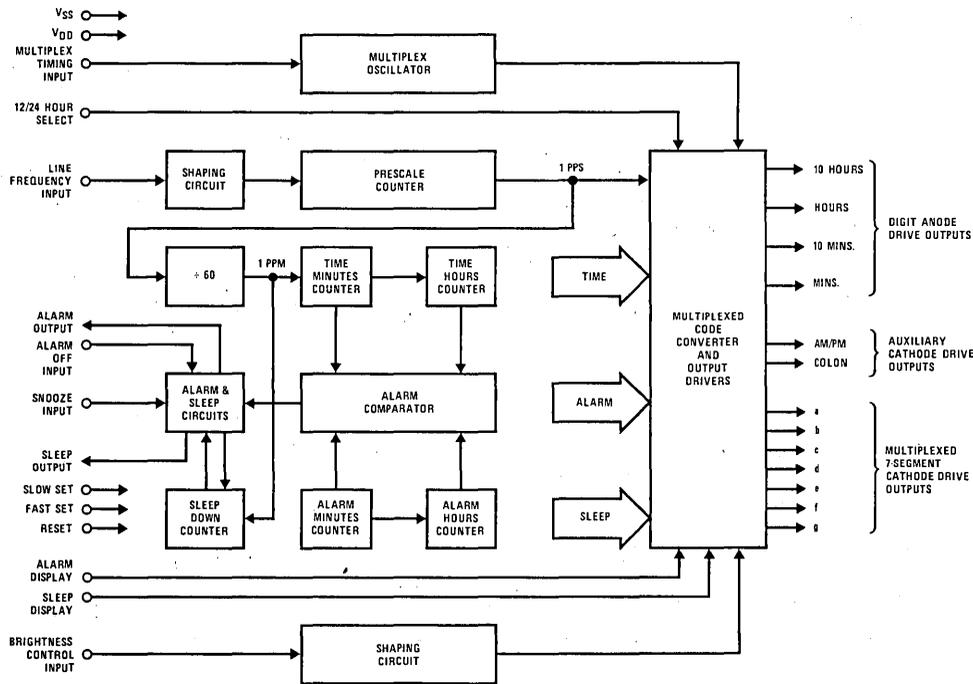

FIGURE 1. MM5370 and MM5371 Digital Alarm Clock, Block Diagram
A block diagram of the MM5370 and MM5371 clocks is shown in *Figure 1*. The various display modes provided by these clocks are listed in Table I. The functions of the controls are listed in Table II. A connection diagram for these devices is shown on page 1. Unless indicated otherwise, the following discussions are based on *Figure 1*.
**Display Mode Select Inputs (pins 7 and 8):** In the absence of either of these inputs, the display drivers output time-of-day information to the display. Internal pull-down (to  $V_{DD}$ ) depletion loads allow use of simple SPST switches for connecting these inputs to  $V_{SS}$ , thereby selecting alternate display modes. If more than one mode is simultaneously selected, the priorities are as noted in Table I. As shown in *Figure 1* the multiplexed code converter receives time, alarm and sleep information from appropriate points in the clock circuitry. The display mode select inputs control the gating of the desired data to the multiplexed code converter inputs and ultimately (via output drivers) to the display.